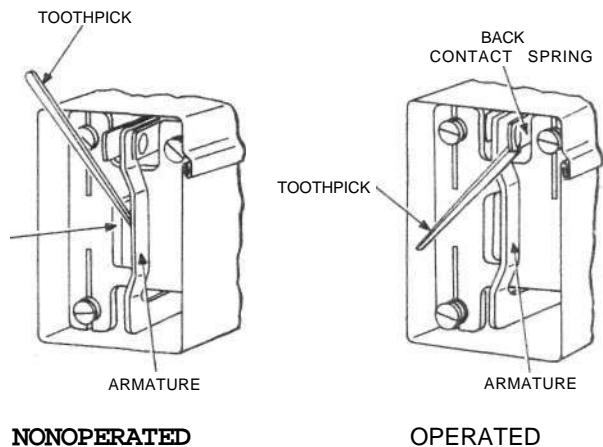

Fig. 4—Blocking B-, G, and J-Type Relays
**3.02** *B-, G-, and J-Type Relays:* Fig. 4—Block relays nonoperated by inserting a toothpick between the core and the armature. Block relays operated by inserting the flat end of a toothpick between the back contact spring or backstop and the upper part of the armature. Take care not to insert the toothpick between the contacts.